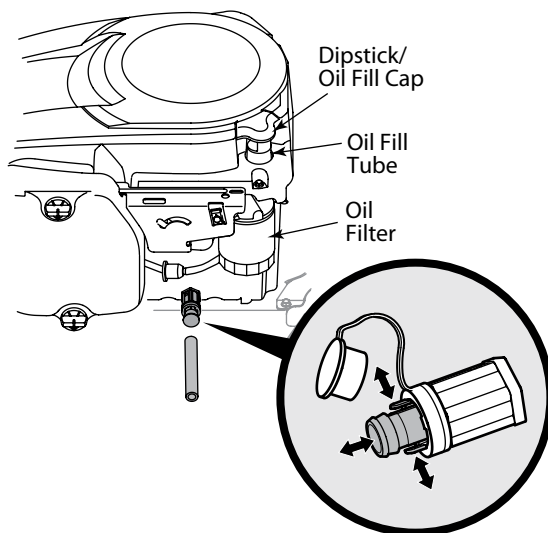

Figure 6-1
3. Pop open the protective cap on the end of the oil drain valve to expose the drain port. Refer to Figure 6-1. Remove the oil fill cap/dipstick from the oil fill tube.
5. Pinch the tabs on the oil drain valve, then pull outward to begin draining oil. See Fig 6-1..